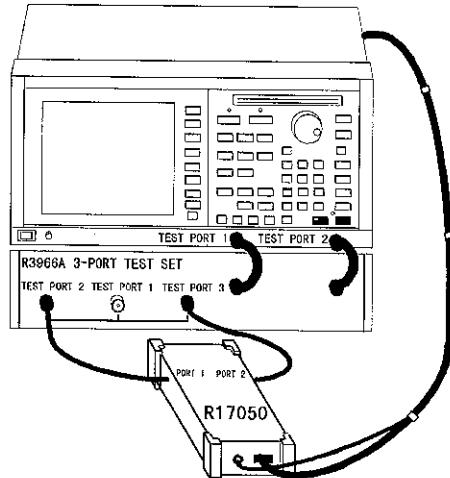

Figure 2-9 RF Port Connection
12. Connect the RF ports of the instrument to the test ports of the network analyzer (see Figure 2-9), using the cable that is actually used to measure the DUT. The RF port of the instrument has no directivity. Feel free to select port combinations.